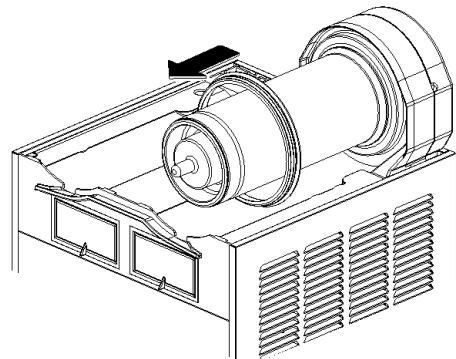

figure 11
- 4** Remove the bowl gasket from its seat (see figure 11).